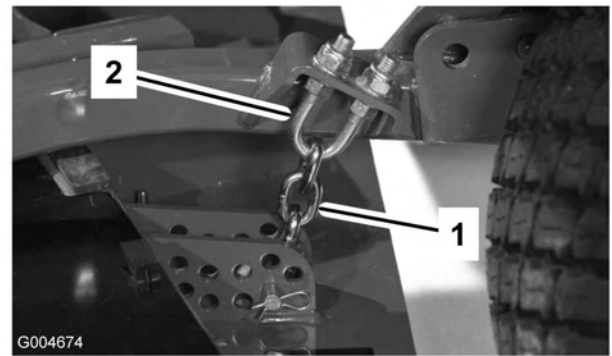

Figure 85
1. Loosen the jam nuts on the top or bottom of the height-of-cut chain U-bolt (Figure 85).